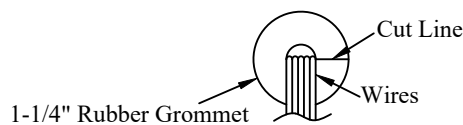

Figure 7: Wire Grommet
- 2. If** the front access holes are 1¼" holes, **Cut** the 1¼" wire grommets from the inner hole out (Figure 7).
- 3. Place** the 1¼" wire grommets or 1½" plastic bushings around wires (Figure 7).